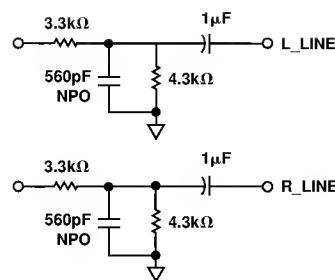
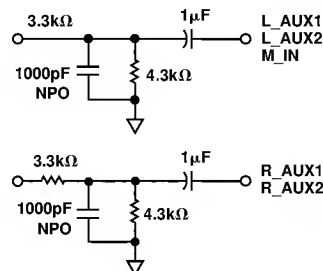

Figure 27. 2 V rms Line-Level Input Circuit for LINE Inputs
Figure 28. 2 V rms Line-Level Input Circuit for M_IN and AUX Inputs
The AD1845 Stereo Codec has been designed to require a minimum of external circuitry. The recommended circuits are shown in Figures 27 through 35.
A circuit for 2 V rms mono, line-level inputs and auxiliaries is shown in Figure 27 and Figure 28. Note that this is a divide-by-two resistive dividers considering the codec input impedance. The input resistor and 560 pF (1000 pF) capacitor provides the single-pole of antialias filtering required for the ADCs. If line-level inputs are already at the 1 V rms levels expected by the AD1845, the resistors in parallel with the 560 pF (1000 pF) capacitors can be omitted. If the application does not route the AUX2 inputs to the ADCs, then no antialias filtering is required (only the 1 μ F ac coupling capacitor).
2. The AD1845 requires the input antialiasing filters for the ADCs (refer to Figures 27 and 28). The CS4231 can use the same filters with no degradation in performance. For compatibility it is suggested that the filters be added.